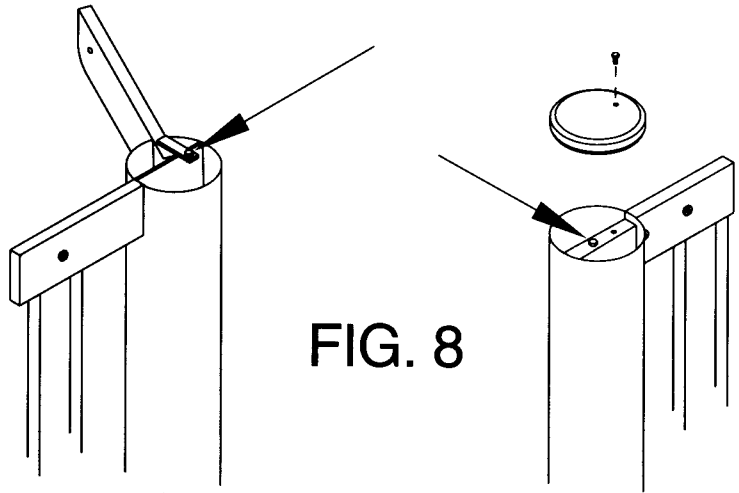

FIG. 8
19. Tension the cable systems in the butterfly/high pulley column and the leg/ab column by locating the adjustment bolt at the top of the column. Rotate the screw until the top plate just begins to lift. Check that the selector pin engages each weight plate completely. (Fig. 8)